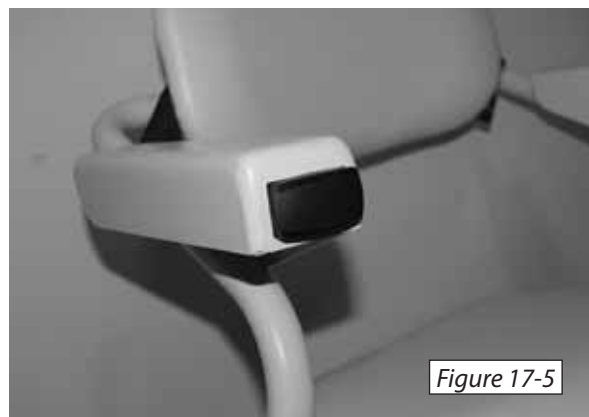

Figure 17-5
**8.** Use the armrest control switch to run the lift down the rail approximately 30". *[Figure 17-5]*